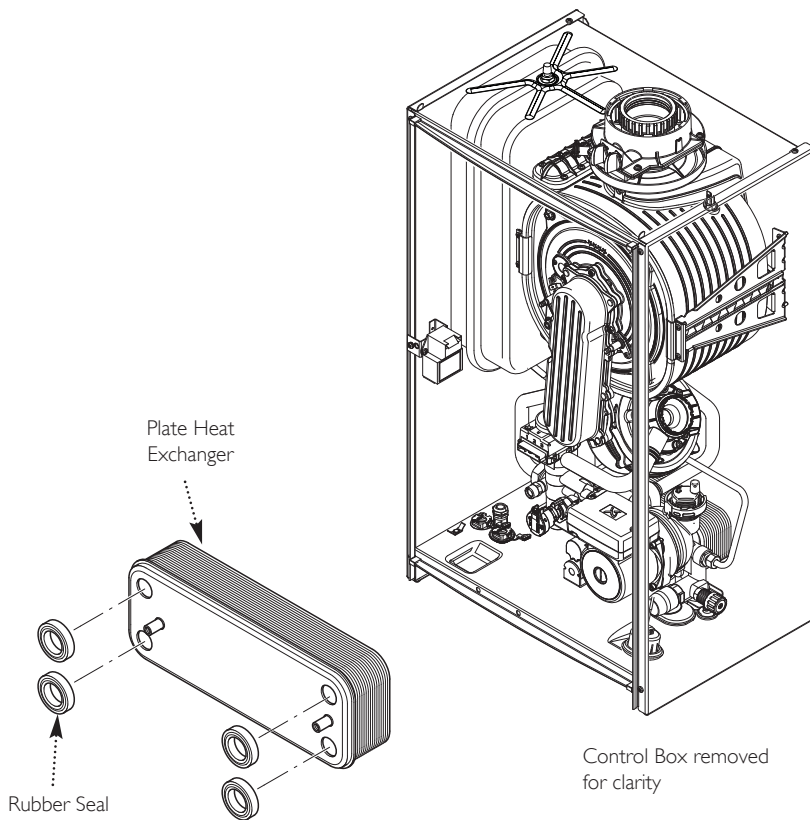

Fig. 66
15.18 Plate Heat Exchanger (Fig. 66)